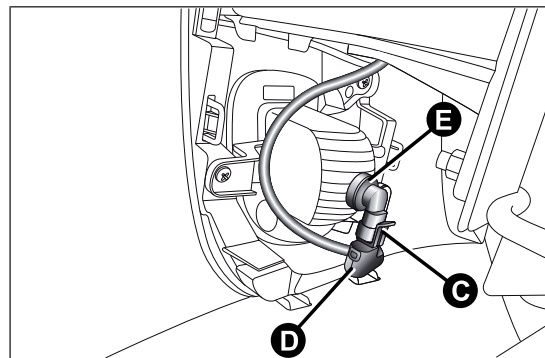

fig. 136
- ☐ adjust the catch C and disconnect the electrical connector D fig. 136;